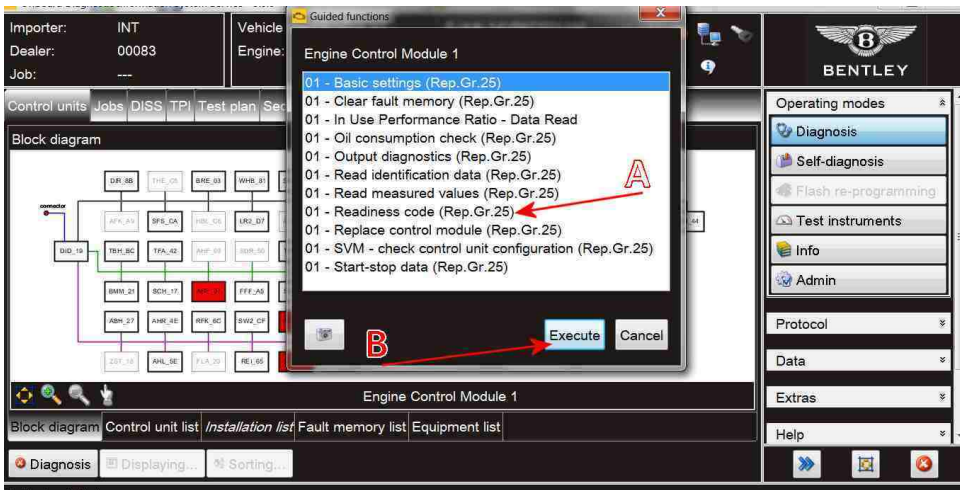

Figure 6
- Select *Readiness code* Figure 6 (Point A)